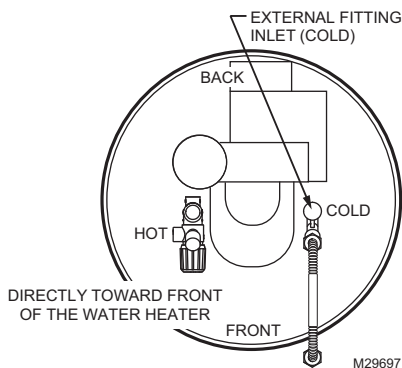

Fig. 5. Install cold water tee.
2. Install the cold water tee onto the water heater's cold water inlet. If installing on a water heater with 1-in. inlet fitting, use 1-in. FNPT to 3/4-in. MNPT brass reducer bushing and brass nipples. Tighten until leak tight and facing the front of the water heater as shown in Fig. 5.